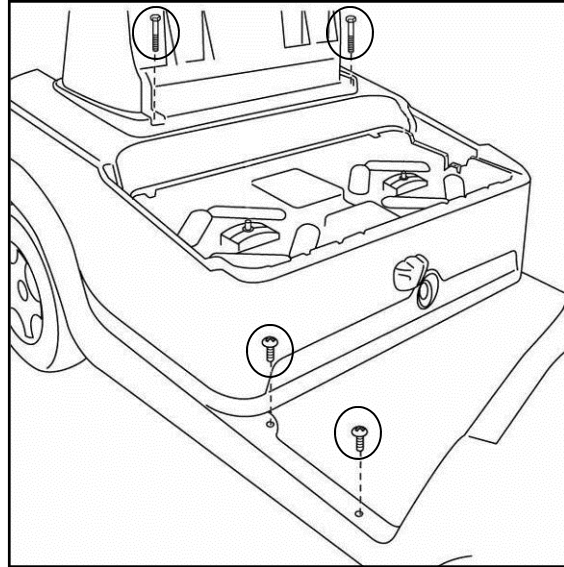

Figure 2: Remove and Save Fasteners
1.2. Remove and save the four floorboard screws with a T40 Torx socket and remove and save the two 10mm bolts that hold the seat back mount to the body. (Figure 2)